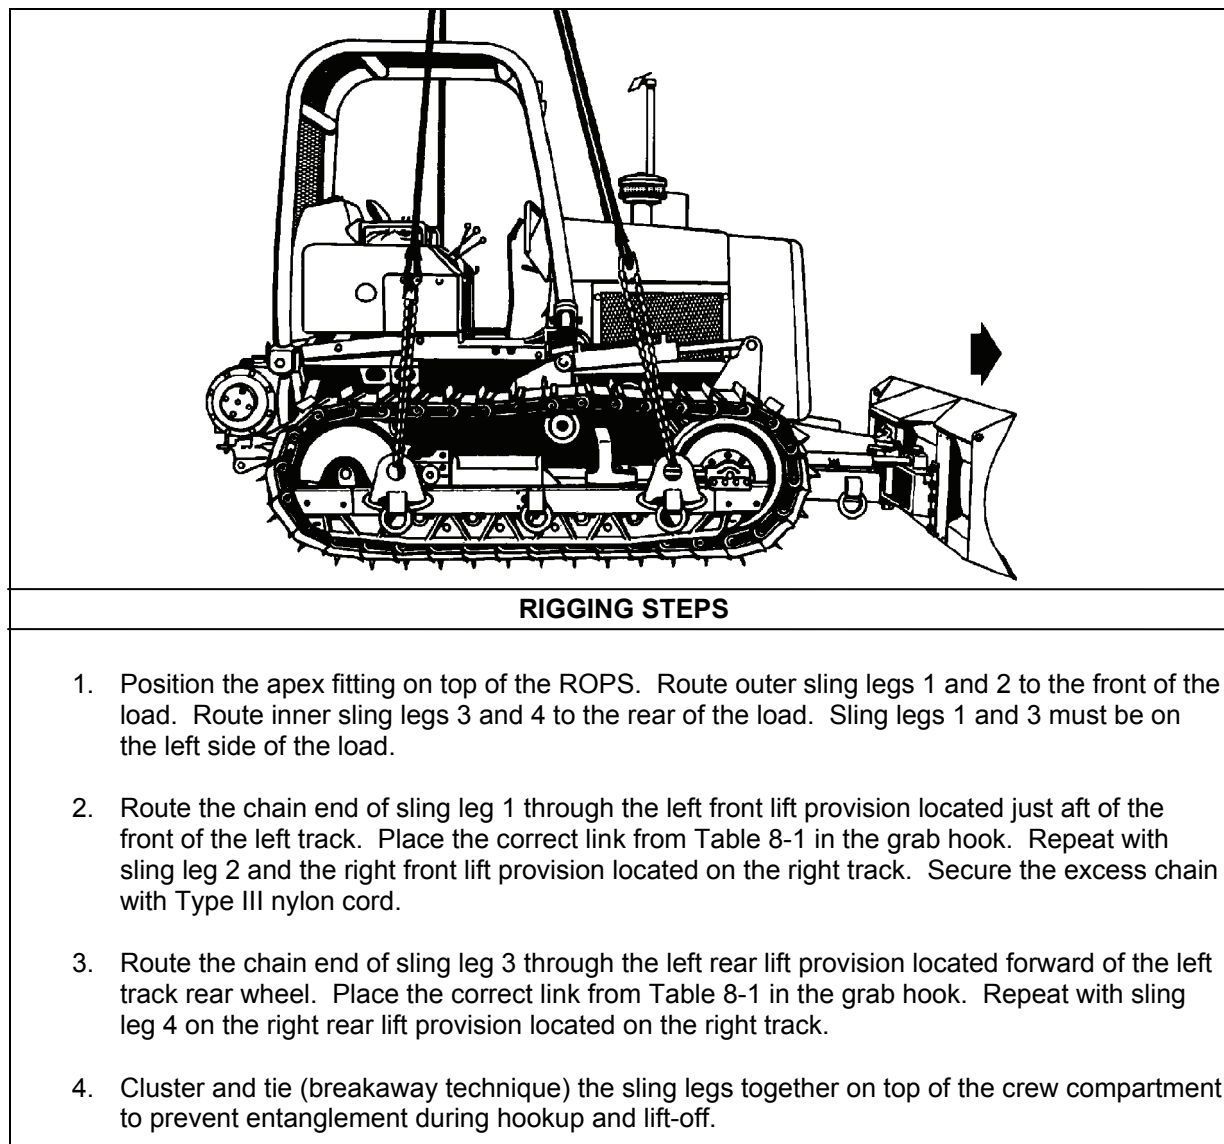

Figure 8-1. T-3 Tractor, Crawler
- **Rigging.** Rig the load according to the steps in Figure 8-1.